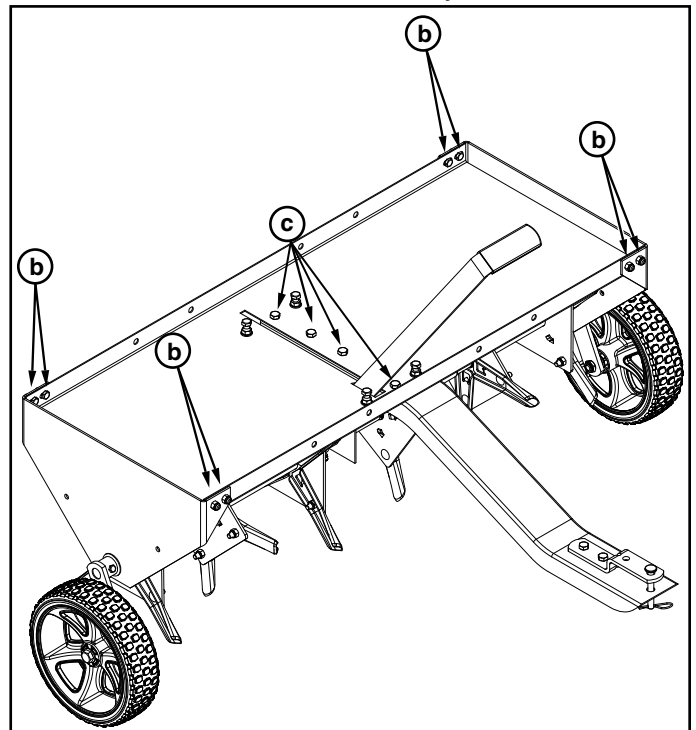

FIGURE 13
18. Perform the following steps in sequence to tighten the bolts and nuts that remain loose. Refer to figure 13.